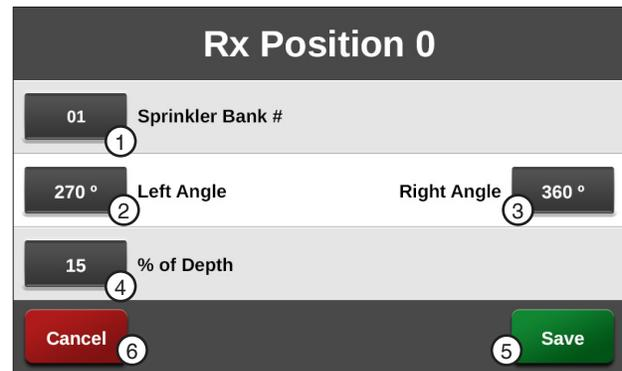

Figure 166-1 1. Sprinkler Bank # 4. % of Depth
1. Push **Menu**, **Programs** and **VRI** to display the VRI-Z screen. Refer to Figure 166-1.